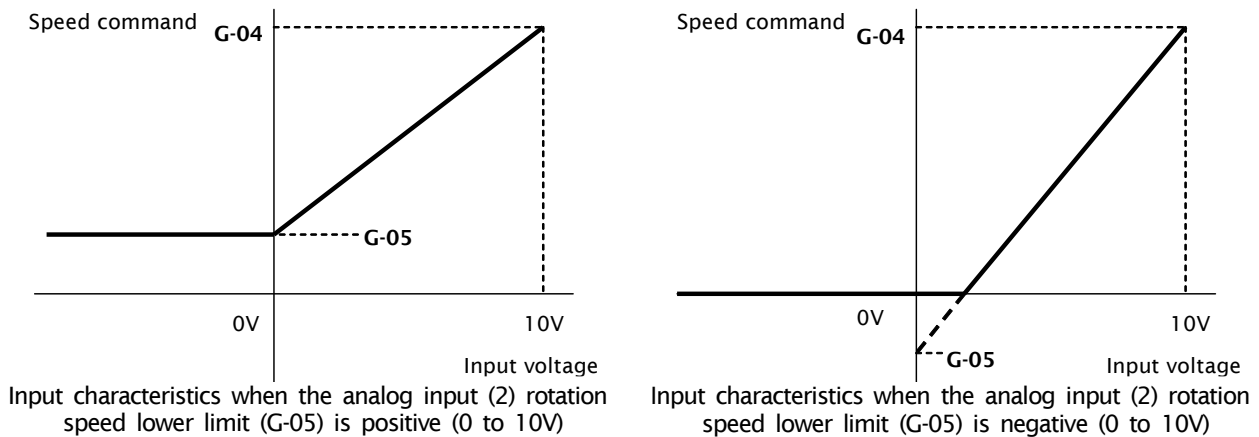

Figure 5.3 Speed command characteristics with voltage input of 0 to 10V
The rotation speed command value is set as the analog input (2) rotation speed lower limit (G-05) when the input is 0V. When the input is 10V, it is set as the analog input (2) rotation speed upper limit (G-04). However, this will be set to "0" if the analog input (2) rotation speed lower limit (G-05) has a negative value. (Figure 5.3) If the minimum rotation speed (A-01) is other than "0", the rotation speed command absolute value is controlled to prevent falling below the minimum speed. As a speed command, this only allows forward operation. For reverse operation, a reverse operation command should be used.